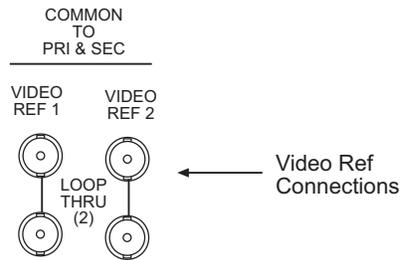

Figure 3-26. Video Reference Connections (Rear View)
- 1 Locate the video reference connections on the rear of the router, as shown in Figure 3-26.